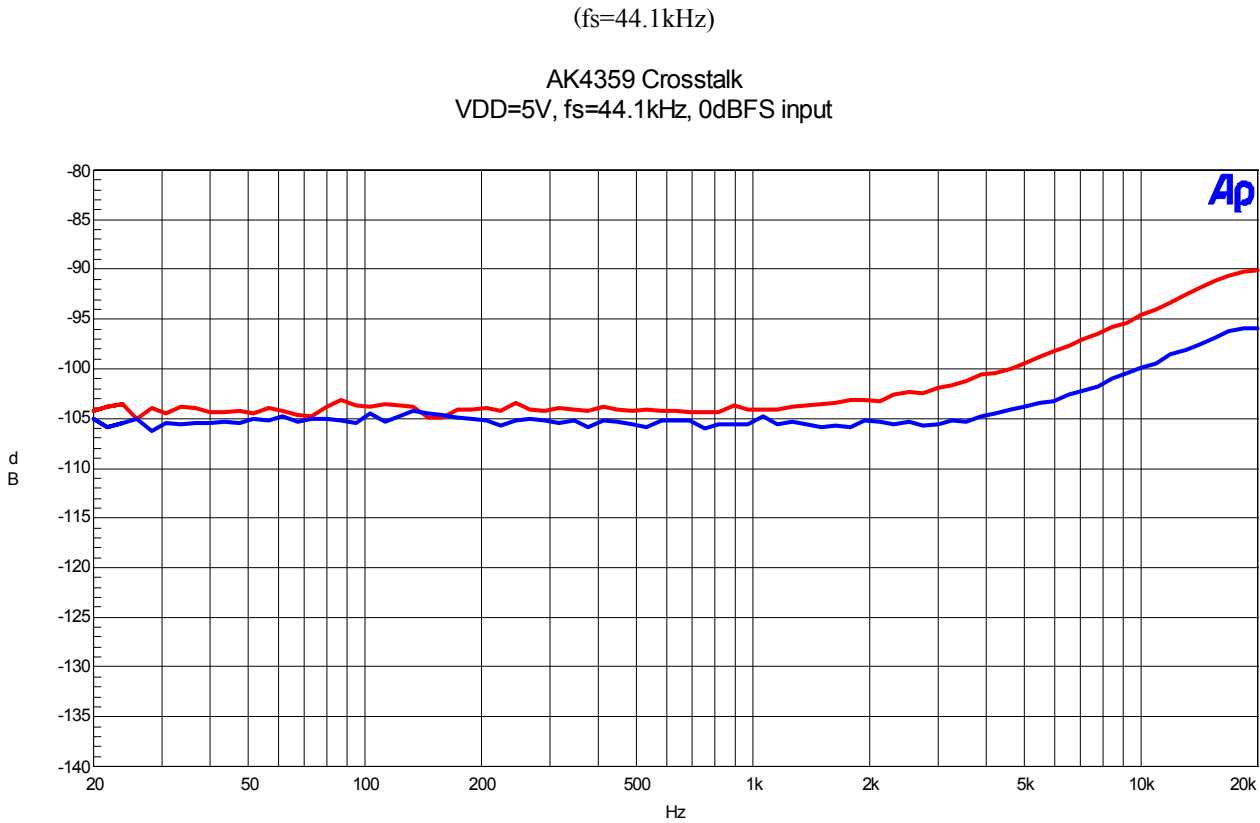

Figure 12. Cross-talk (Input level=0dBFS)
- Figure 12. Cross-talk (Input level=0dBFS)